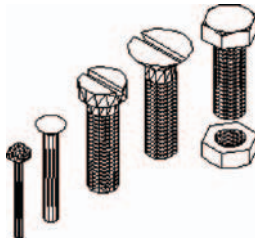

Fig. 14.5 Second example – the five fastenings
1. Construct 3D models of a number of engineering fastenings. The number constructed does not matter. In this example only five have been constructed – a 10 mm round head rivet, a 20 mm countersunk head rivet, a cheese head bolt, a countersunk head bolt and a hexagonal head bolt together with its nut (Fig. 14.5). With the **Create** tool save each separately as a block, erase the original drawings and save the file to a suitable file name – in this example **Fig05.dwg**.